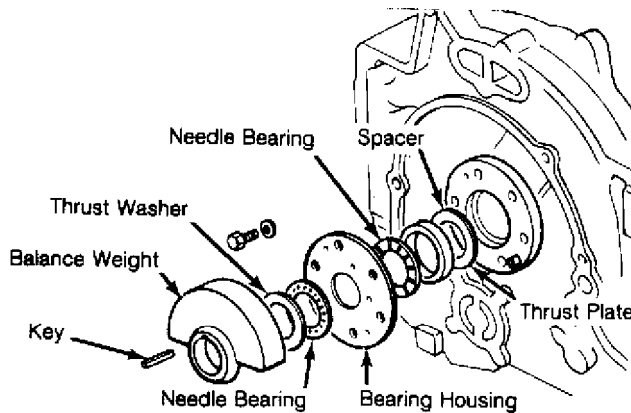

Fig. 3: Removing Balance Weight & Bearing Housing
5) Remove balance weight and bearing housing from front of engine. See Fig. 3.